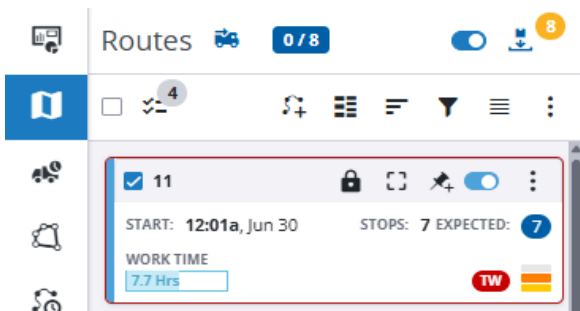

Figure 40 - Example Route card
- The count on the icon at the top of the panel increases as cards are checked (see *Figure 40* above).